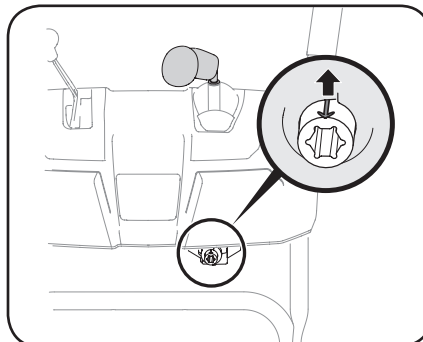

Figure 2-19
5. Rotate joystick to one o'clock position so the arrow on pinion gear below control panel faces upward. See Figure 2-19.